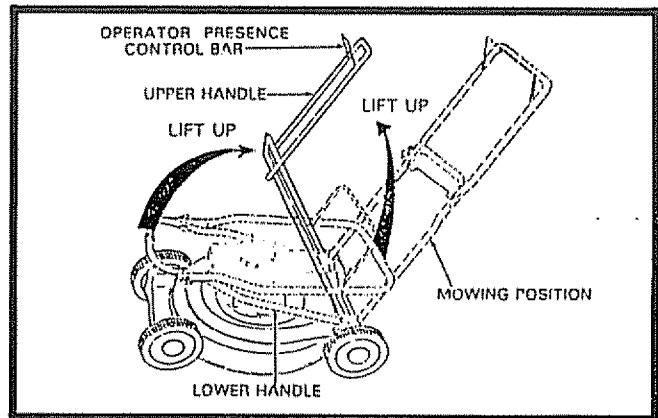

FIG. 1
- Raise handles until lower handle section locks into place in the mowing position (See Fig. 1).